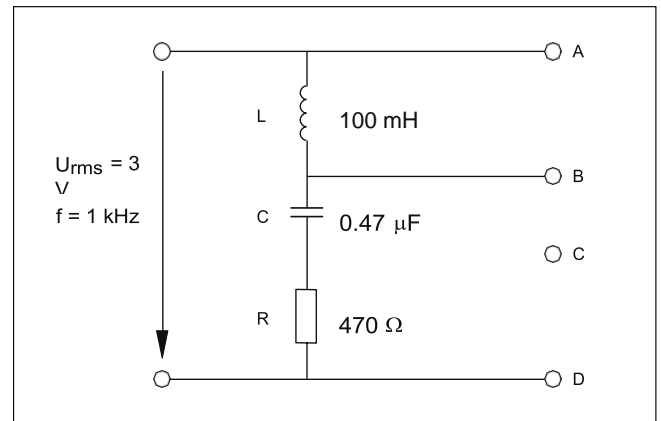

Fig. 12.1.1
- Set up the experiment according to the circuit (Fig. 12.1.1), connect the function generator and set the following voltage: